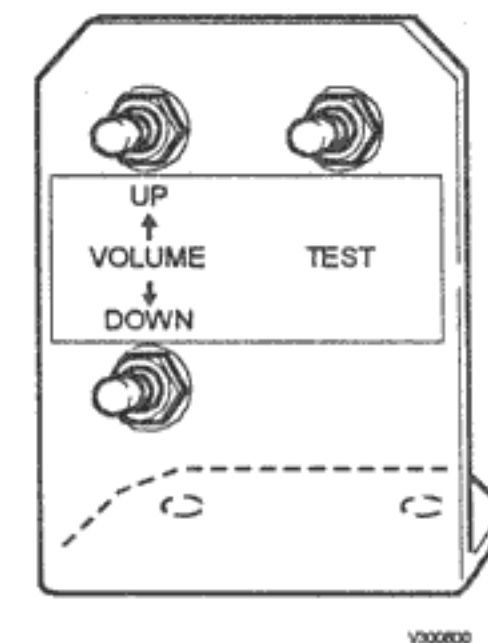

Figure 7: Test/Volume Bracket
23. Your cabinet may already be equipped with a test switch. An optional test/volume bracket (see Figure 7) is available through your local CAPCOM distributor (part number 03-0050). When installing, the test switch bracket should be mounted inside the coin door and on top of the cash box for easy access. (See Page 7 for wiring detail)